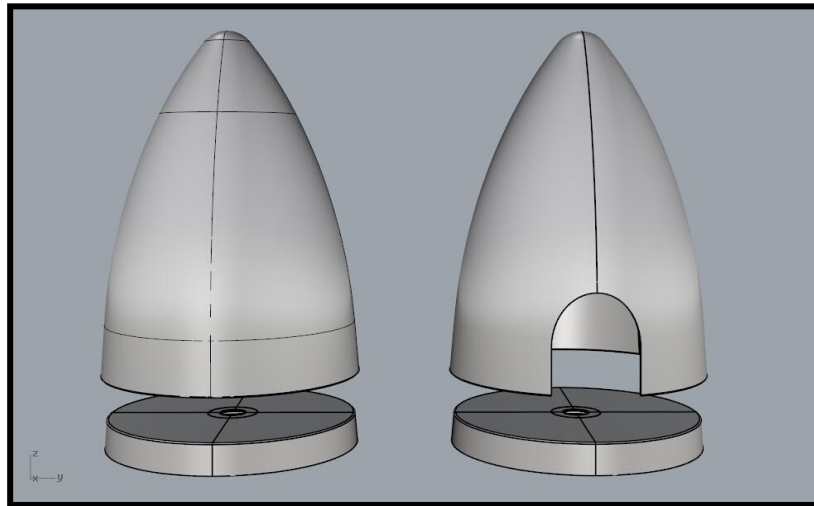
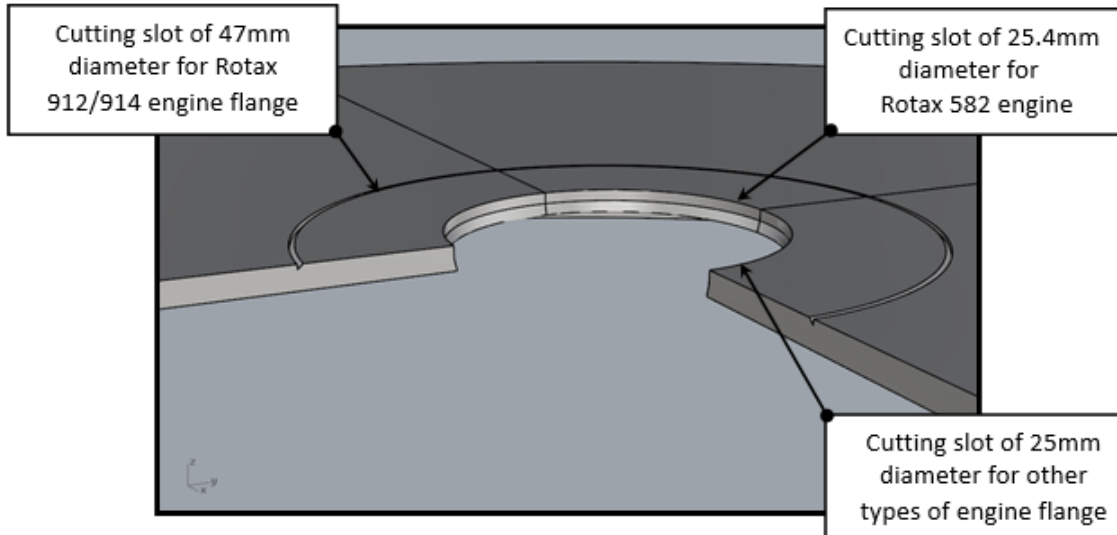

Figure 4: Spinners with and without cutting ports
Figure 5: Size of the cutting slot of the center hole in the back plate
4. The ports on the spinner and back plate are not pre-cut unless special ordered (as shown in **Figure 4** and **Figure 5**)
There is only one center hole in the back plate when shipped out so that customers can change the size of the hole according to their own needs. Note: we provide three standard cutting positions for options. They are 25mm 25.4mm and 47mm (See **Figure 5**)